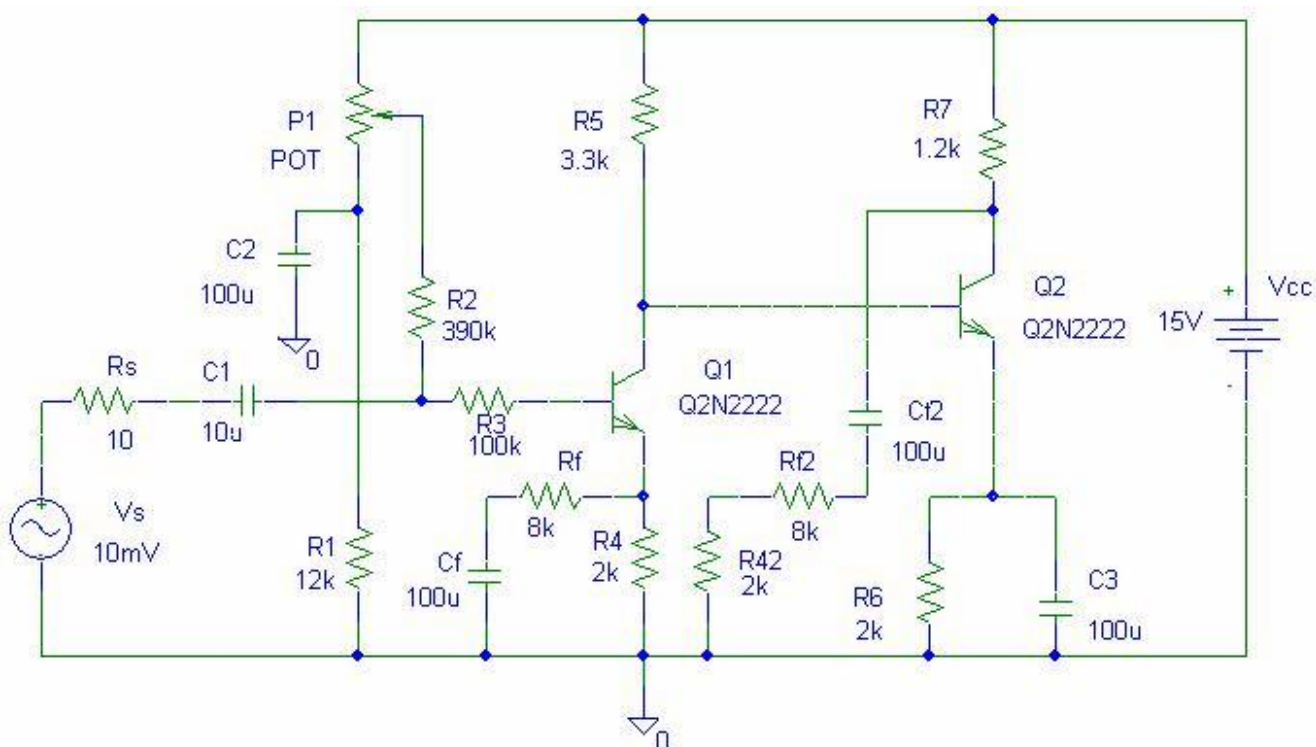

Fig. 2 Voltage amplifier circuit with open-loop series-shunt negative feedback
- The circuit has an open loop (Figs. 2, 4).
3.2. By using the *Schematics* editor, draw the circuit corresponding to the voltage amplifier circuit with the with open-loop series-shunt negative feedback (Figure 2).